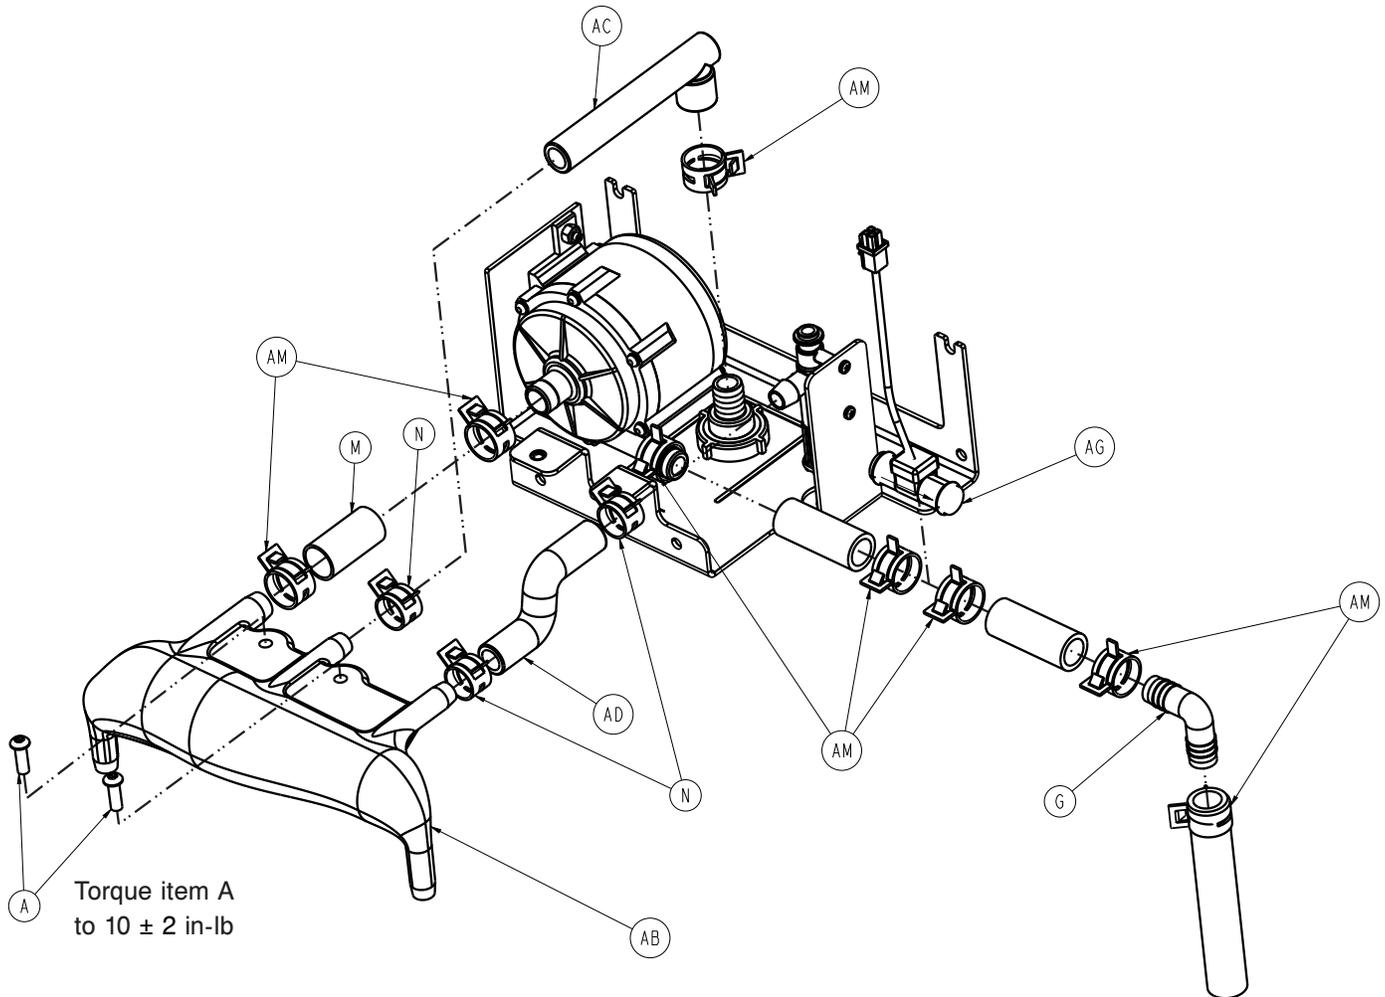

Figure 40 – Hose clamps
11. Using needle nose pliers, pinch the hose clamps (AM) and remove the tubing from the system flow sensor (Figure 40).